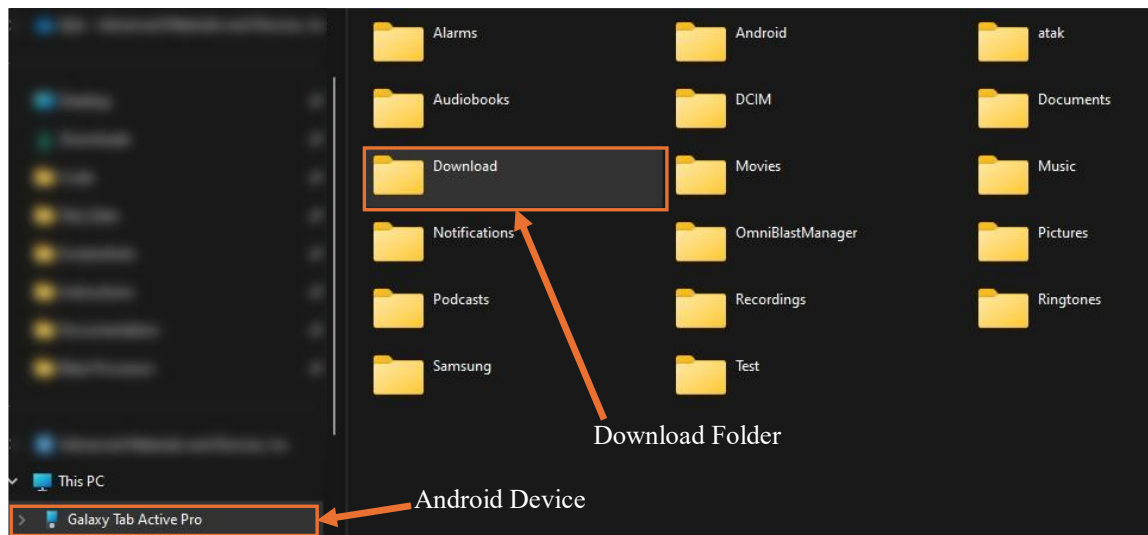

Figure 1. Android device connected to a Windows PC and displaying the download folder.
3. Select the Android device in the file explorer and paste the .APK into the downloads folder of the Android device. (**Figure 1**)